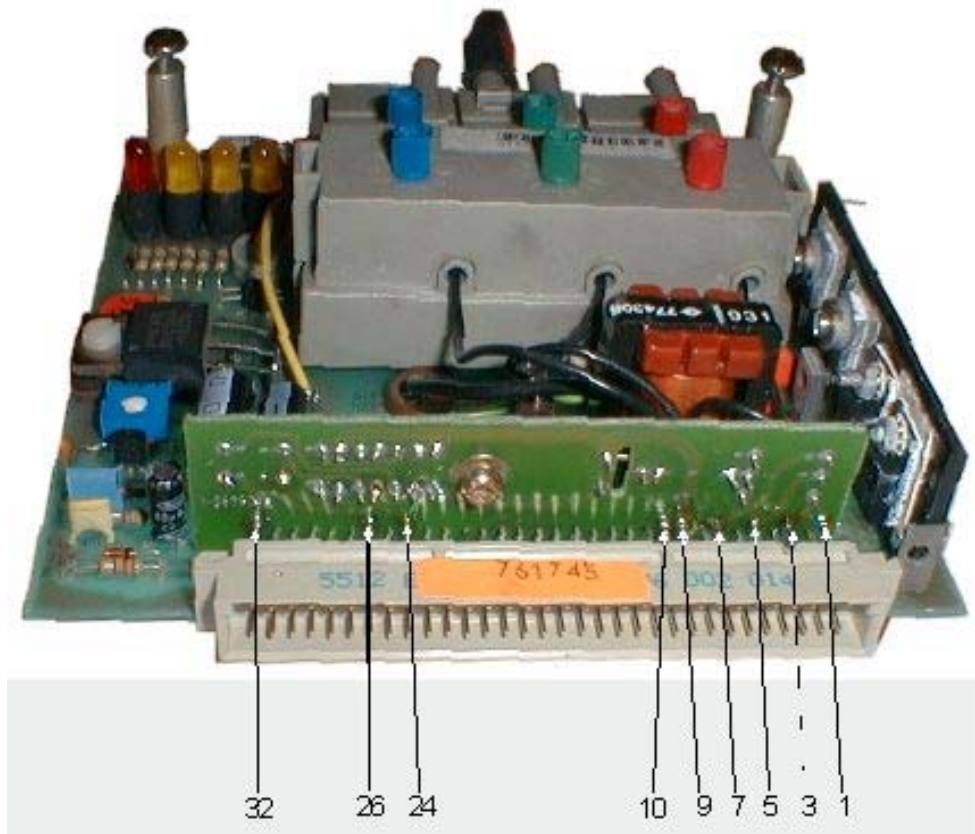

Figure 1
4. Refer to figure 1. Solder the G2 Killer PCA to pins 1, 3, 5, 7, 9, 10, 24, 26 and 32 of connector J10A.